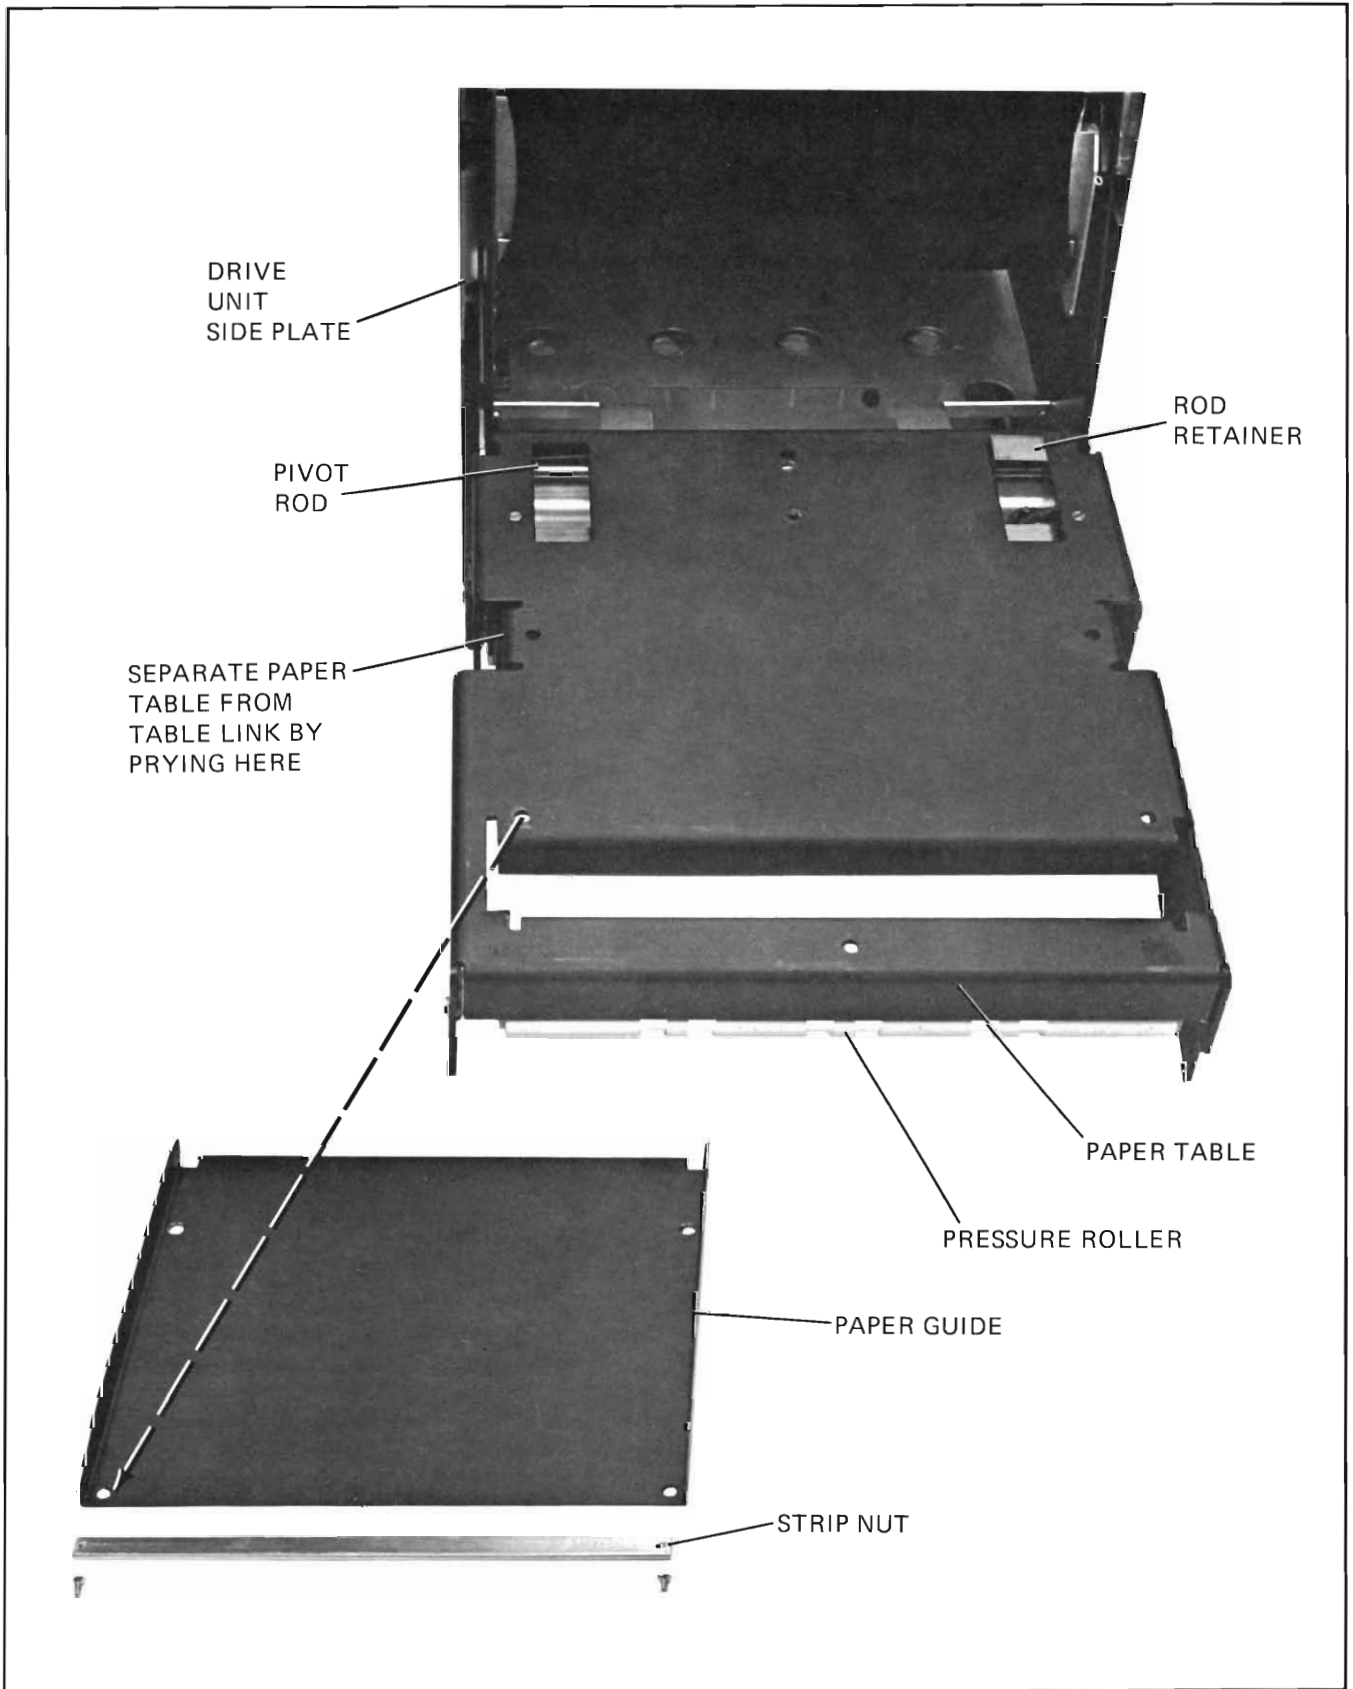

Figure 5-13. Paper Table Removal
- a. Pull out the paper table at the bottom and lower it to a horizontal position (Figure 5-13).
- b. Remove two flat head screws that mount paper guide plate through a strip nut (bar of metal with two tapped holes) at back of paper table (Figure 5-13).